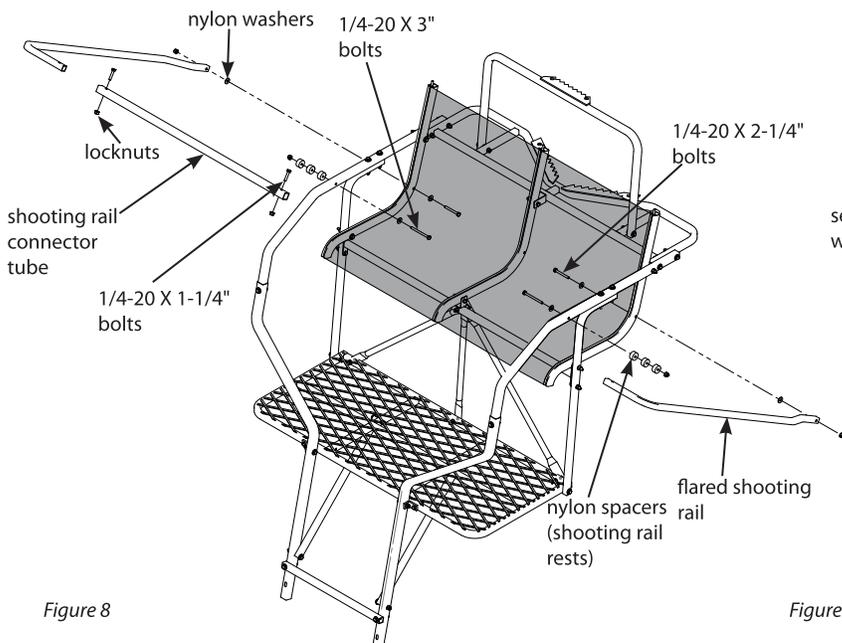

Figure 8
11. Attach the shooting rail rests (nut/bolt with nylon spacers) to the armrest rails using (2) provided 1/4-20 x 3" bolts, (6) nylon spacers, (2) locknuts and (2) steel washers. **SEE FIGURE 8.**
12. Insert the flared shooting rail (14121) into the shooting rail connector tube (14129). Secure together using (2) provided 1/4-20 x 1-1/4" bolts and locknuts. **SEE FIGURE 8.**
13. Attach the assembled shooting rail to the outside rails of seat assembly using (2) provided 1/4-20 x 2-1/4" bolts, locknuts, steel washers and nylon washers. **SEE FIGURE 8.** You must now tighten all nut and bolt assemblies. Be sure not to over tighten or crush tubing when tightening.